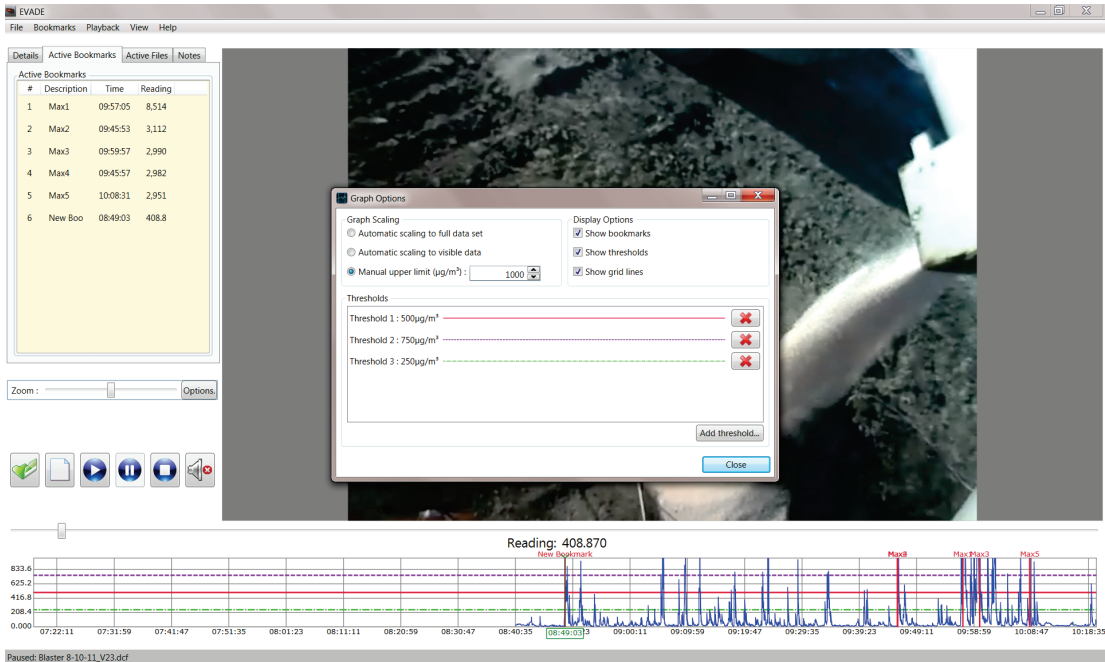

Figure 47. The Graph Options dialog box showing additional thresholds added to the graph.
6. Creating multiple thresholds. The user can also create additional thresholds which will be all displayed concurrently (Figure 47). There is no limit to the number of thresholds that can be created.
7. Deleting thresholds. The user can delete any or all of the thresholds by clicking on the red X button next to the threshold to be deleted (Figure 47). It should be noted that any thresholds created will remain active in other EVADE analyses, both when opening new dust cam files (*dcf*) or creating new analyses, until they are actually deleted.